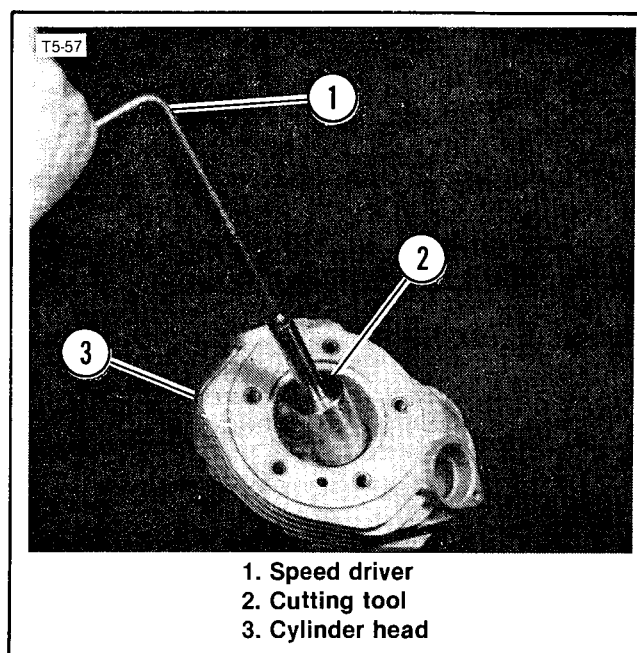

Figure 4. Cutting Valve Guide
3. Insert a speed handle into the drive end of the cutting tool. See Figure 4.